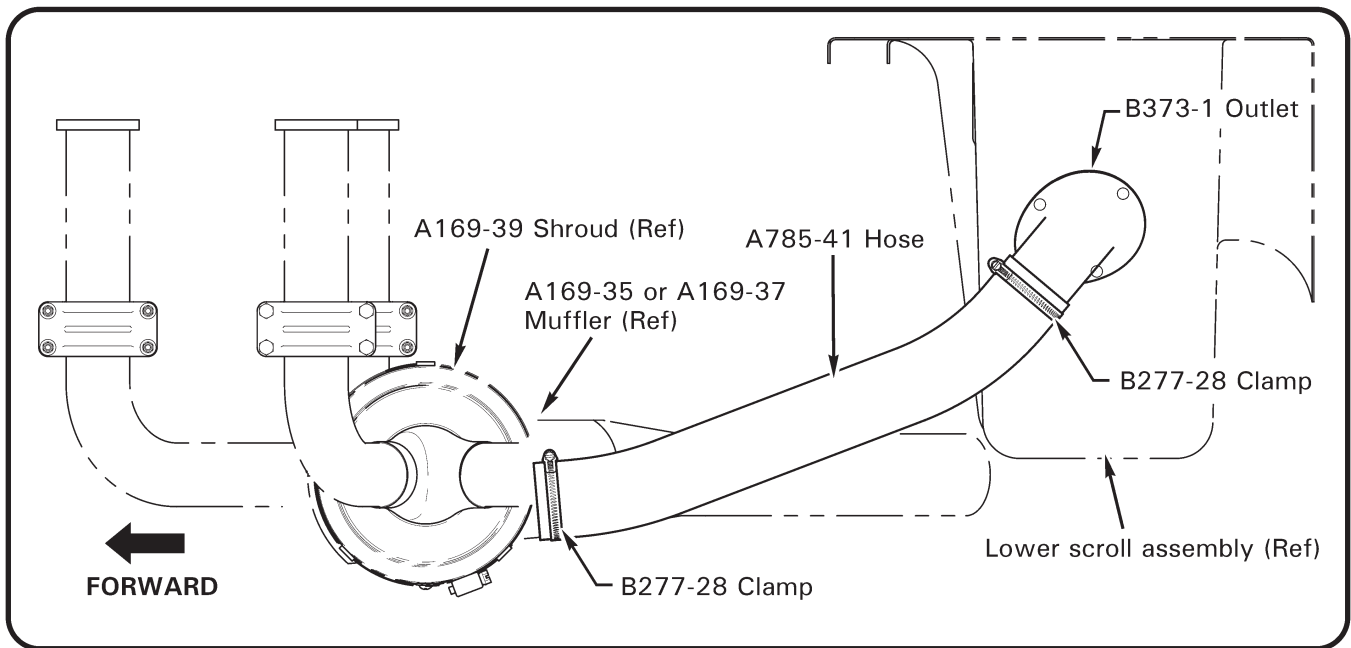

FIGURE 3
15. Refer to Figure 3. Install A785-41 hose to muffler shroud and B373-1 outlet using (2) B277-28 clamps.